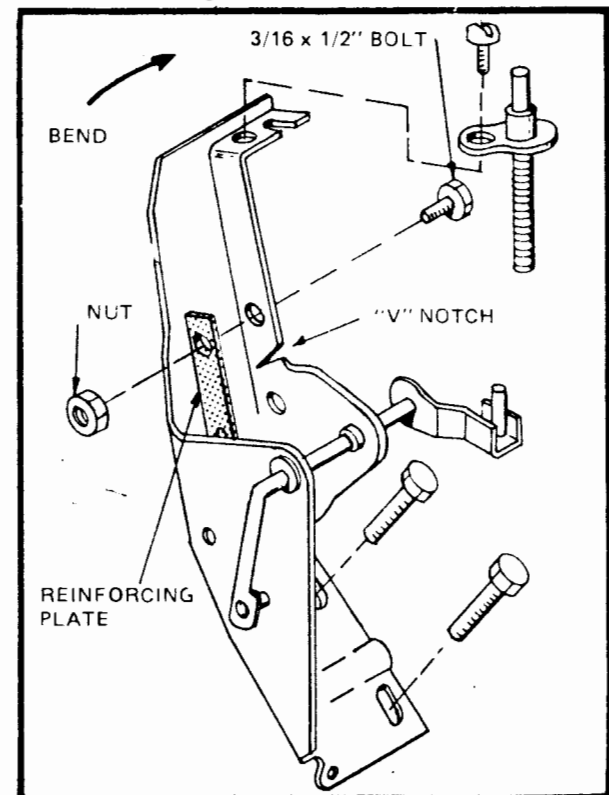

Figure 20
- Cut a small "V" notch out of the side of the bracket just above the down shift linkage arm. Bend the bracket upwards until it just clears the master cylinder. Drill two holes, 3/16", for the bracket reinforcing plate. Secure with 3/16 x 1/2" bolts and nuts. Attach accelerator cable and check for free movement. Bend the bracket slightly to the side to clear any engine components. (Figure 20)